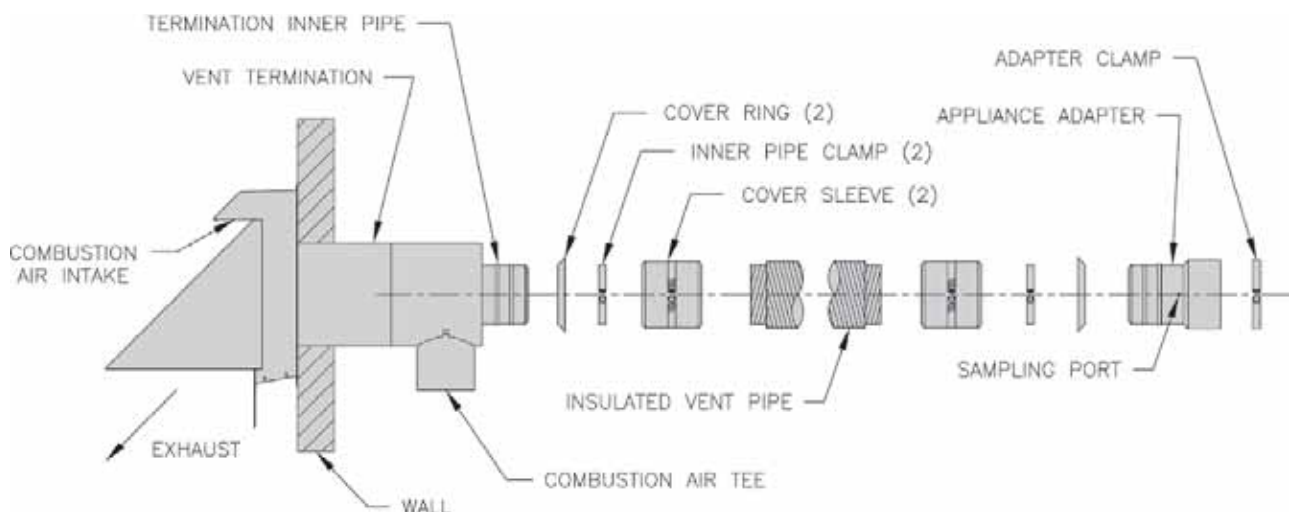

Figure 28: FDVS Component Breakdown
- After completing assembly of the flexible double wall insulated vent pipe to the vent termination inner pipe (see Figure 28 and the following Steps), apply